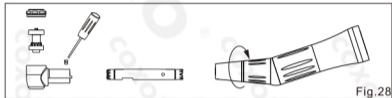

Fig.28
- 5) Tighten the back cover first, then assemble the other accessories firmly in accordance with this ( Fig. 28 ).
- 4) Insert a new cartridge into the head (Fig.28).